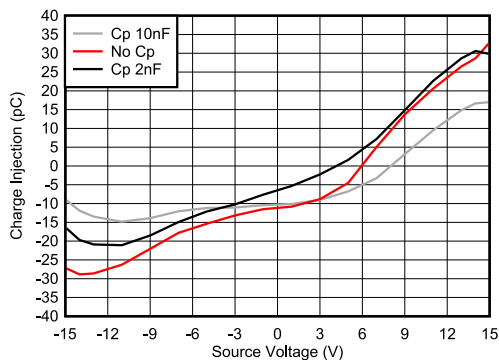

Figure 7-2. Charge Injection Compensation
The TMUX7219-Q1 contains specialized architecture to reduce charge injection on the source (Sx). To further reduce charge injection in a sensitive application, a compensation capacitor (Cp) can be added on the drain (D). This will ensure that excess charge from the switch transition will be pushed into the compensation capacitor on the drain (D) instead of the source (Sx). As a general rule, Cp should be 20× larger than the equivalent load capacitance on the source (Sx). Figure 7-2 shows charge injection variation with source voltage with different compensation capacitors on the drain side.